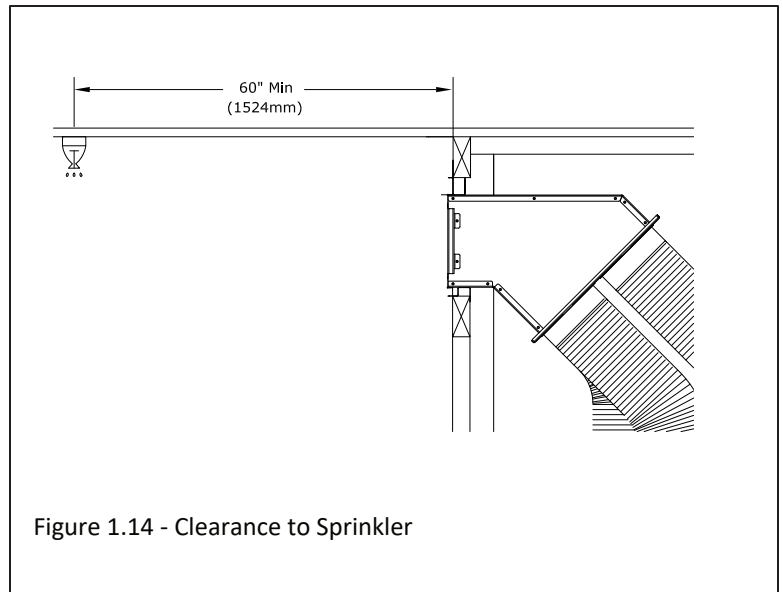

Figure 1.14 - Clearance to Sprinkler
- Figure 1.14 shows a side KZK whereas your installation may look different.